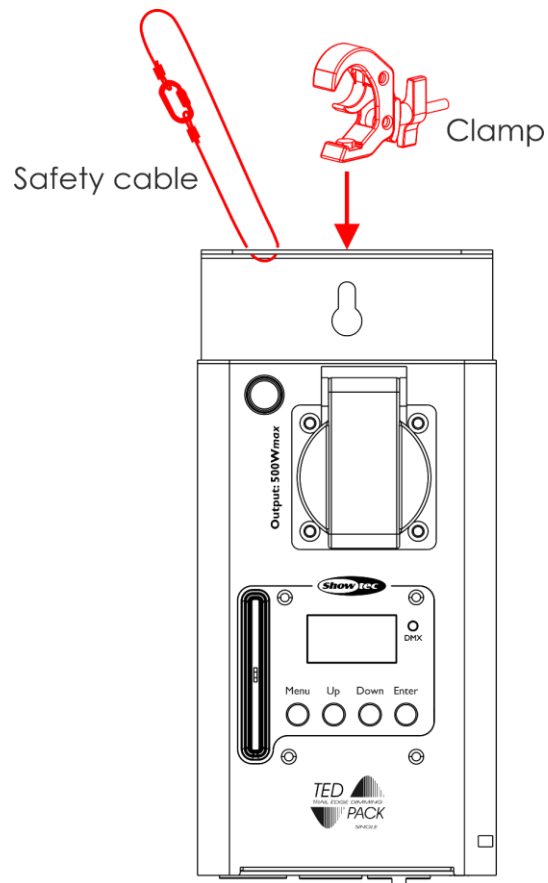

Fig. 07
- 01) Use a clamp to attach the device to the supporting structure, as shown in Fig. 07. Make sure that the device cannot move freely.
- 02) Secure the device with a secondary suspension, for example a safety cable. Make sure that the secondary suspension can hold 10 times the weight of the device. If possible, the secondary suspension should be attached to a supporting structure independent of the primary suspension. Put the safety cable through the **safety eye (13)**, as shown in Fig. 07.